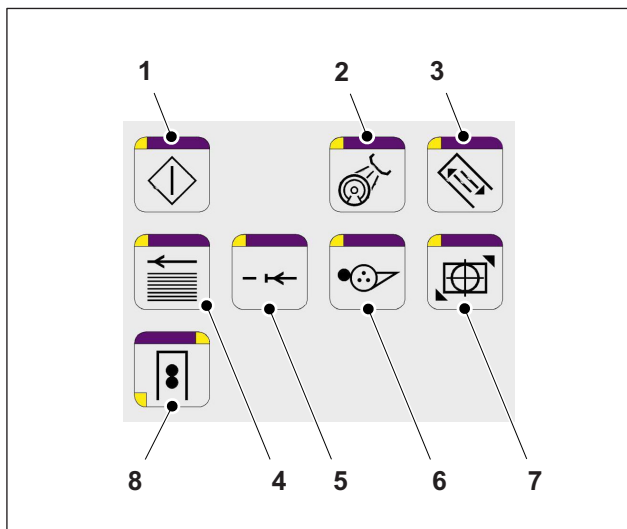

Fig. 27 Direct selection buttons
- Operation (Fig. 27/1)
- Blanket washup (Fig. 27/2)
- Plate change/AutoPlate (Fig. 27/3)
- Paper run blast air on/off (Fig. 27/4)
- Double sheet position run (Fig. 27/5)
- Ink ductor (Fig. 27/6)
- Diagonal register (Fig. 27/7)
- Printing unit (Fig. 27/8)